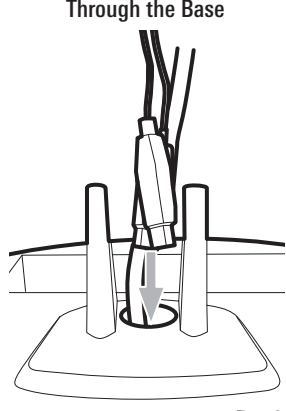

Figure 8
2. Route the power cable from the mount DOWN through the center hole of the base. Route the transducer jump cable UP through the base and mount. (Figure 8)